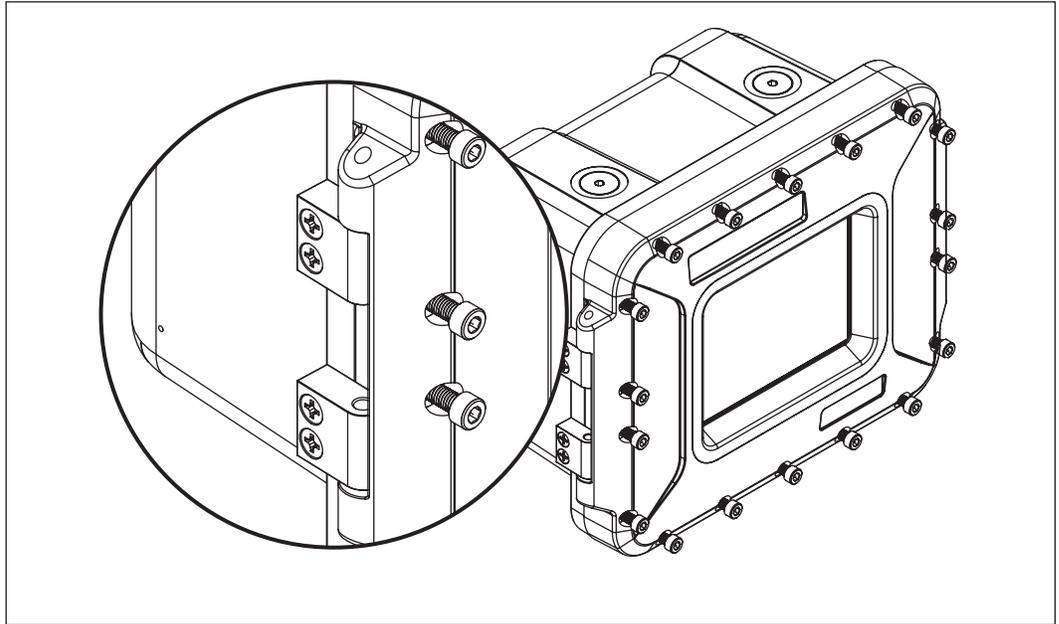
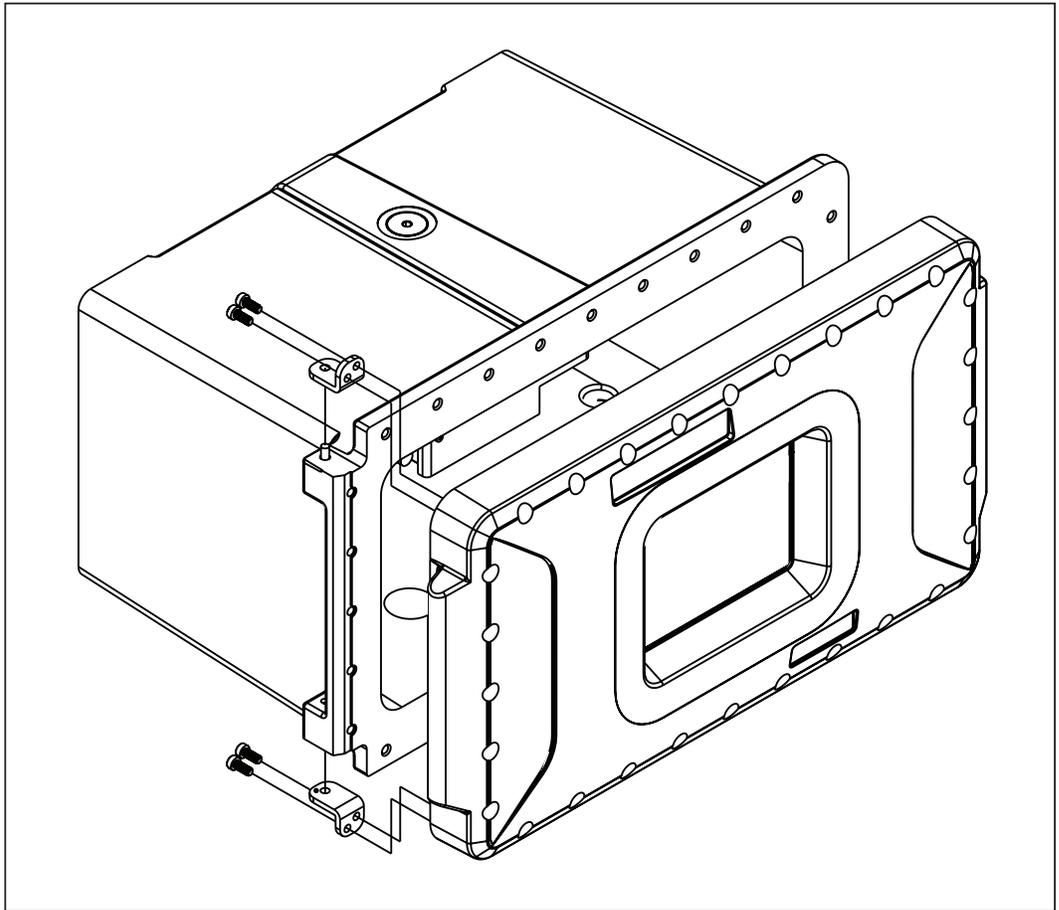

Figure 3 – ALIV-ST hinge bolt location
Figure 4 – ALIV-QT hinge bolt location
6. While supporting the front cover assembly, remove the four bolts securing the cover hinges to the rear housing and remove the front cover assembly. See Figure 3 for ALIII-S and Figure 4 for ALIII-Q.